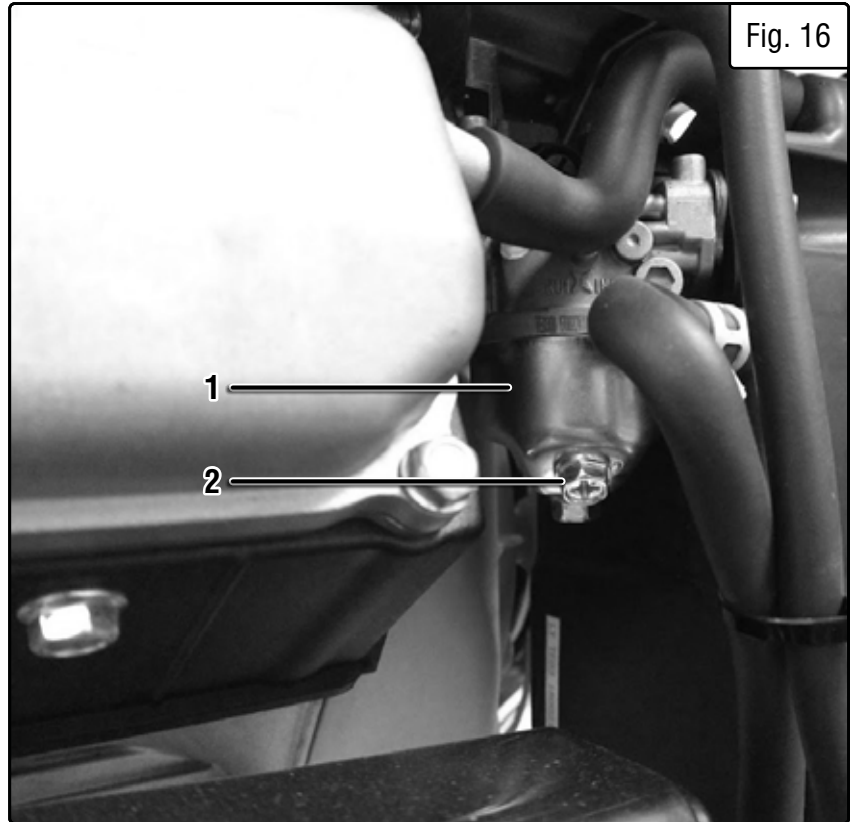

Fig. 16
3. The carburetor (Fig. 16 - 1) can be accessed on the left of the generator, right behind the air filter.
5. Open up the carburetor drain screw (Fig. 16 - 2) with a Phillips-head screwdriver and drain out any gasoline that has built up inside the carburetor through the included funnel into the approved gasoline-storage container.